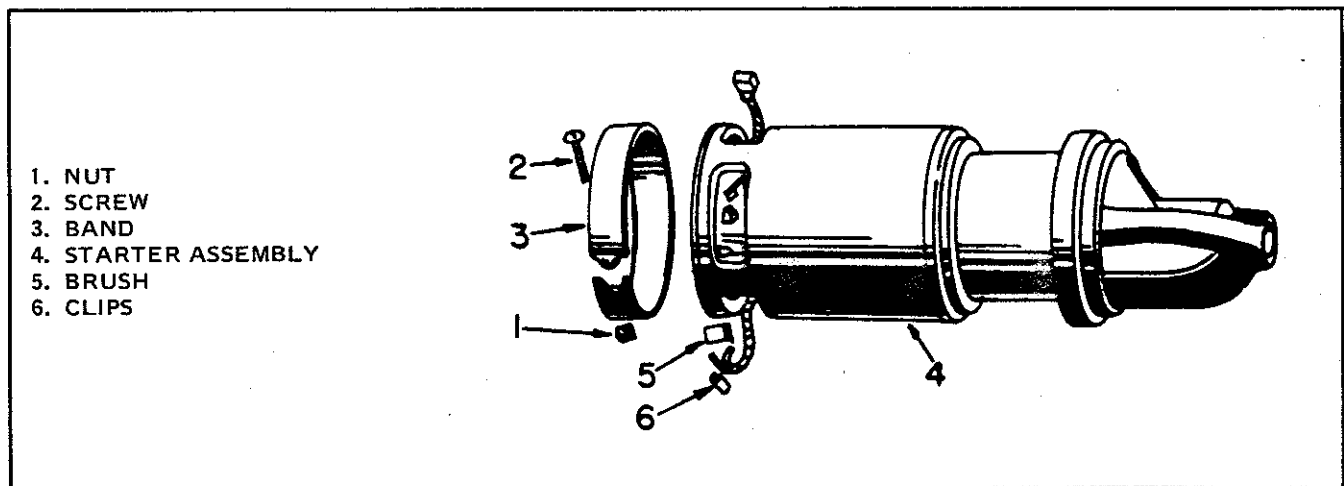

Figure 5-4. Starter Brush Replacement
- (1) Remove nut (1, figure 5-4), screw (2) and slide cover band (3) off starter assembly (4).
- (2) Pull the two brushes (5) out of starter assembly. Inspect for excessive wear, cracks, and chipping. If brushes are worn to less than 5/8 inch (15.875 mm) long, are chipped or cracked, they shall be replaced.